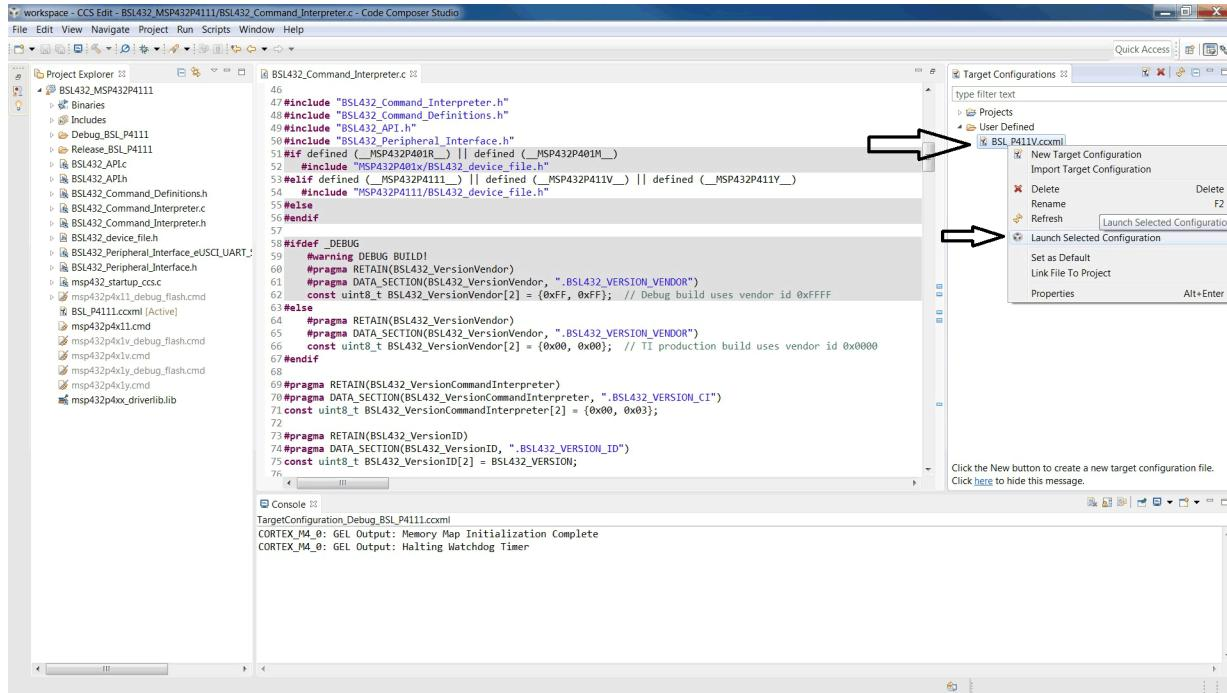

Figure 14. Launch Selected Configuration
5. Right-click on the target configuration BSL_P4111.ccxm, and select *Launch Selected Configuration* (see Figure 14).